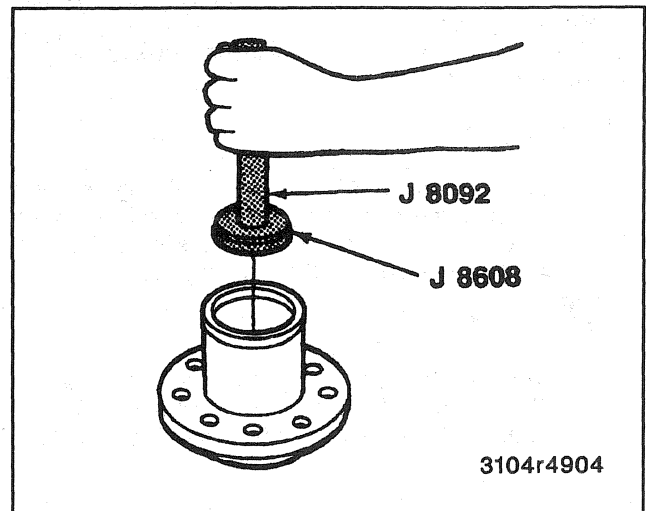

Figure 30—Installing Outer Bearing Cup
- Drive the cup into the hub using J 8092 and J 8608 (Figure 30). Drive the cup beyond the retaining ring groove.